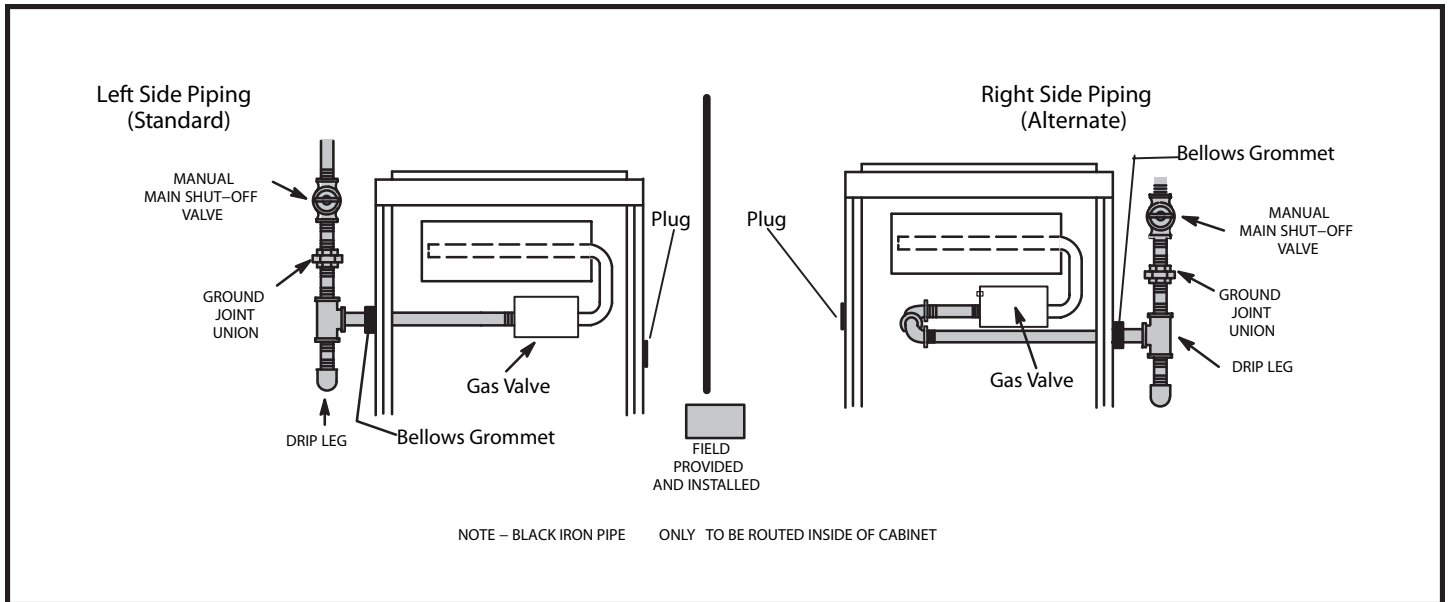

Figure 49
1. Gas piping may be routed into the unit through either the left or right hand side. Supply piping enters into the gas valve from the side of the valve as shown in Figure 49. Move Bellows grommet to side which gas line enters. Ensure opposite gas line hole is plugged with supplied plug.
3. Gas piping must not run in or through air ducts, clothes chutes, chimneys or gas vents, dumb waiters or elevator shafts. Center gas line through piping hole. Gas line should not touch side of unit. See Figures 49 and 50.